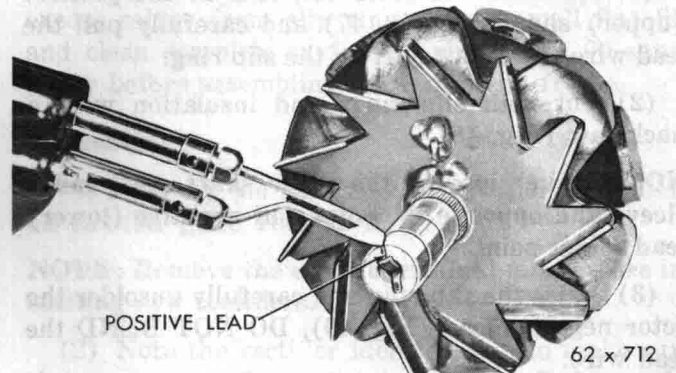

Fig. 47—Unsoldering Positive Lead at Slip Ring
(1) Unsolder the rotor coil lead at the positive (upper) slip ring (Fig. 47) and carefully pull the lead wire up and away from the slip ring.